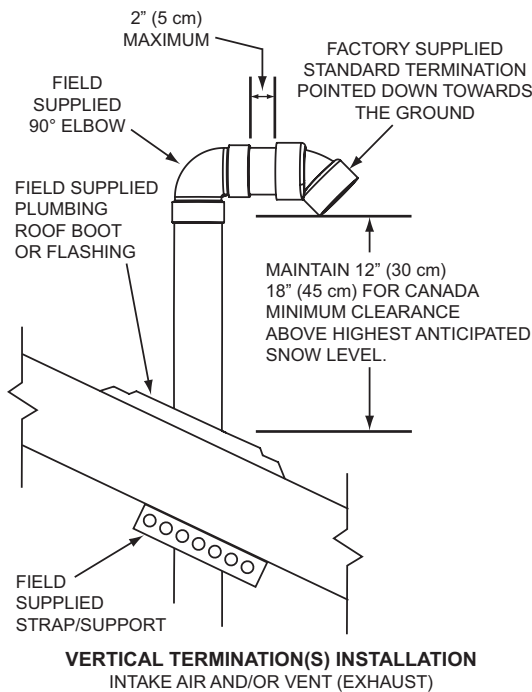
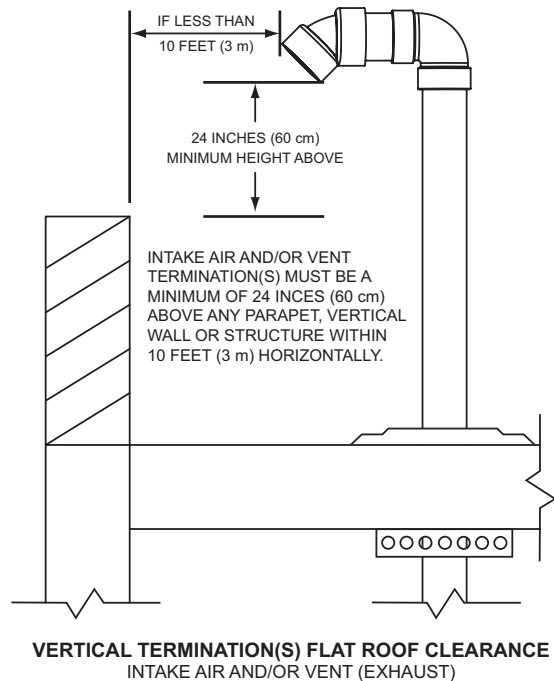
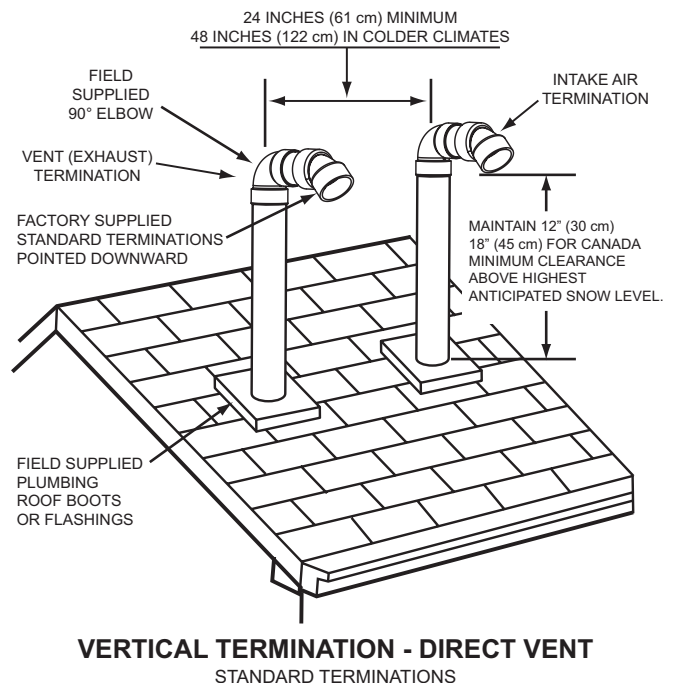

Figure 19
Figure 20
Figure 21
2. If installing only the vent (exhaust) piping in a Power Vent configuration vertically through the roof; ensure that all exterior vertical clearance requirements shown in Figure 19 and Figure 20 on page 25 are being maintained. These clearances and those cited by local and national codes must be maintained.
NOTE: On flat roof installations the vent termination must be a minimum of 24 inches (60 cm) above any parapet, vertical wall or structure within 10 feet (3 m) horizontally. See Figure 20 on page 25.
3. If installing both intake air and vent piping in a Direct Vent configuration vertically through the roof; ensure that all exterior vertical clearance requirements shown in Figure 20 and Figure 21 on page 25 are being maintained. These clearances and those cited by local and national codes must be maintained.
NOTE: On flat roof installations the intake air and the vent terminations must be a minimum of 24 inches (60 cm) above any parapet, vertical wall or structure within 10 feet (3 m) horizontally. See Figure 20 on page 25.
The vent termination must be oriented facing downward as shown in Figure 19 and Figure 20.
The bottom edge of the vent termination must be a minimum of 12 inches (30 cm), 18 inches (45 cm) in Canada, above the average or expected snow level as shown in Figure 19.
The intake air and vent pipes must penetrate the same side of the roof as shown in Figure 21.
The intake air and vent terminations must be oriented facing downward and in the same direction as shown in Figure 21.
The intake air and vent terminations must have a minimum separation of 24" (61 cm) measured on center line as shown in Figure 21. In colder climates this separation should be increased to at least 48 inches (122 cm).
The bottom edge of the intake air and vent terminations must be a minimum of 12 inches (30 cm), 18 inches (45 cm) in Canada, above the average or expected snow level as shown in Figure 19 and Figure 21.
The distance between the closest vent and intake air terminations must be a minimum of 24 inches (61 cm) as shown in Figure 21. In colder climates this separation should be increased to at least 48 inches (122 cm).
- Suspend the pipe(s) through center of hole using field supplied metal strapping or equivalent support materials as shown in Figure 19.
- Slide a roof boot or equivalent flashing over the pipe and secure roof boot or equivalent flashing to roof (see Figure 19) and seal around the flashing.
- Install the factory supplied intake air and/or vent termination(s) using field supplied pipe and one field supplied 90° elbow as shown in Figure 19. The short section of pipe that connects between the field supplied 90° elbow and the factory supplied termination must not be excessive in length. The exposed portion of this pipe shall be no more than 2 inches (5 cm), see Figure 19.